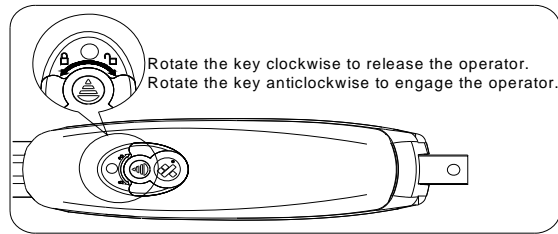

Fig.13
**Manual operation** (see Fig.13)